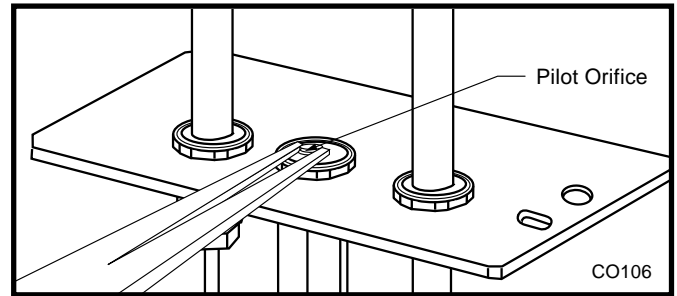

Fig. 70 Remove pilot orifice.
12. Remove pilot orifice with needle-nose pliers. (Fig. 70)